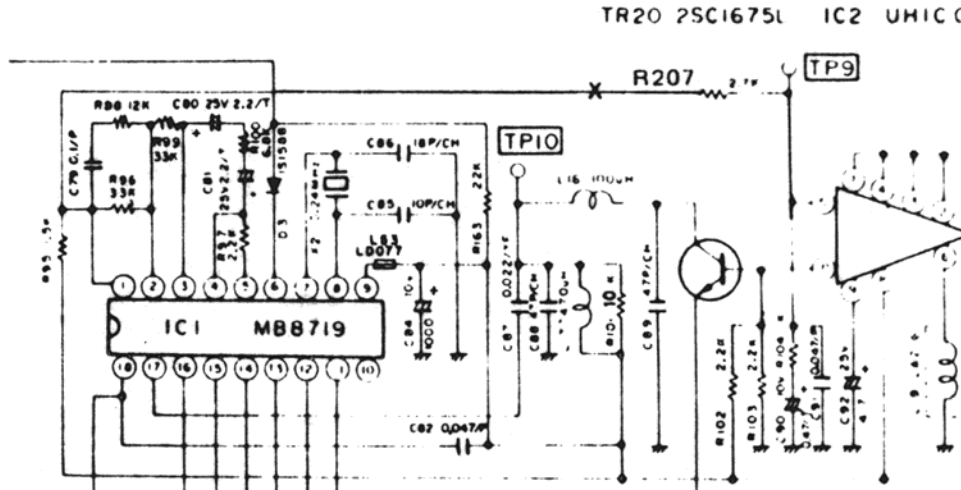

FIG. 1 — CIRCUIT DIAGRAM
4. Locate resistor R207, normally located next to TP9 (see Fig. 1) and cut one lead.